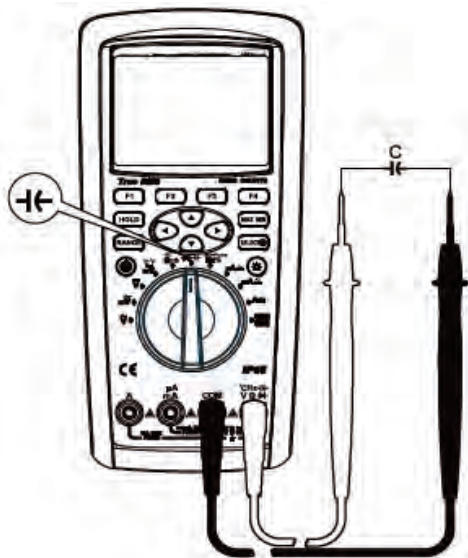

Figure 9
- 2) Set the rotary switch to the measurement  . Press the SELECT key to select Capacitance measurement. Connect the test leads to both ends of the measured capacitance as shown in Figure 9.